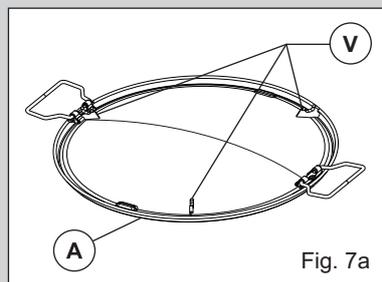

Fig. 7a
- To prepare the Skottel Braai for use place it onto the Burner Pan (F) so that all three Locators (V) (Fig.7a) will properly mate with the lip on the circumference of the Burner Pan(F) thus ensuring a stable fitment.